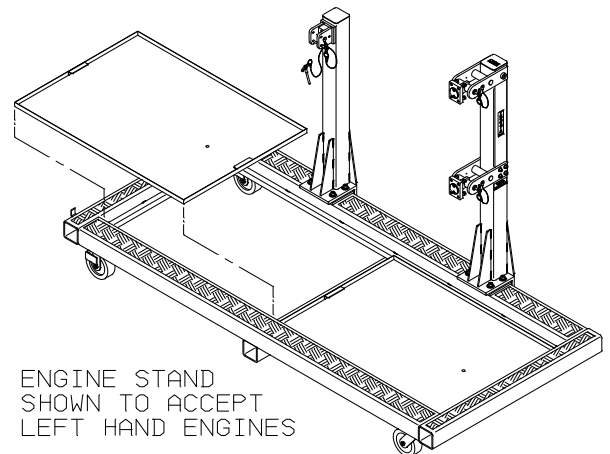

FIGURE 1
1. The 08-2018-0000 PW305 engine stand is designed to handle either right hand or left hand mounted engines. The main post is mounted in the front end of the engine stand base for use with a left hand engine, Reference Figure 1. The front and rear mounting posts are reversed for right hand mounted engines.